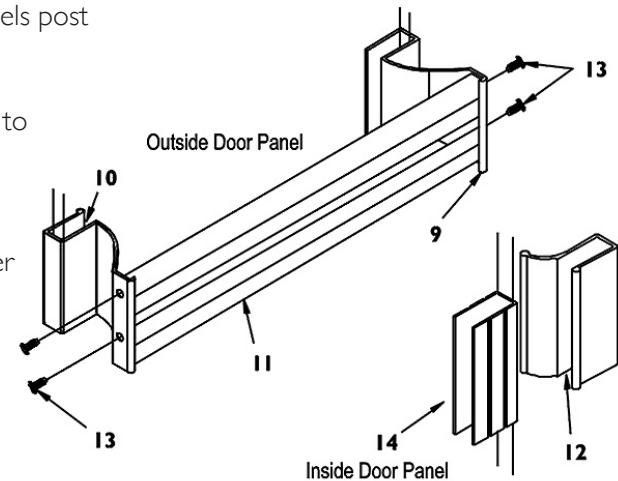

FIGURE 3
Bracket with no pull should be to jamb side of slider opposite of shower head. Assemble towel bars (11) to bracket using #6 x 3/8" SMS (13). (See Figure 3)
16. Set handle to vinyl in place over edge of inside glass panel with bottom of vinyl in line with bottom of bumper on edge facing the wall jamb. Tap inside door pull (12) into place. NOTE: Large portion of pull to inside of slider.